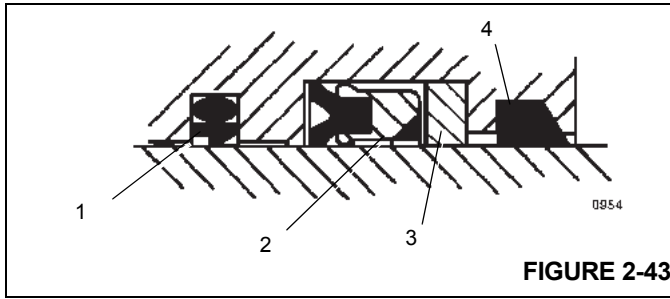

FIGURE 2-43
3. Install the buffer seal assembly and backup ring in the inside of the head Figure 2-43.